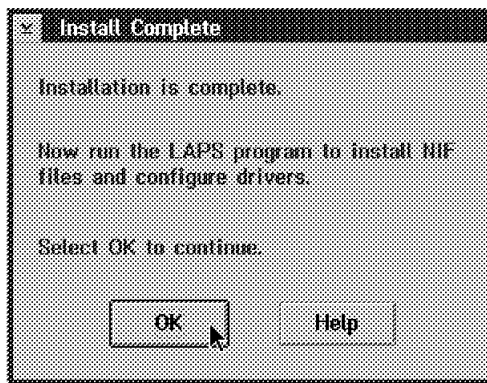

Figure 232. 8235 Installation Completed
7. When the panel as shown in Figure 232 appears, you have completed the installation of DIALS Client software for OS/2.